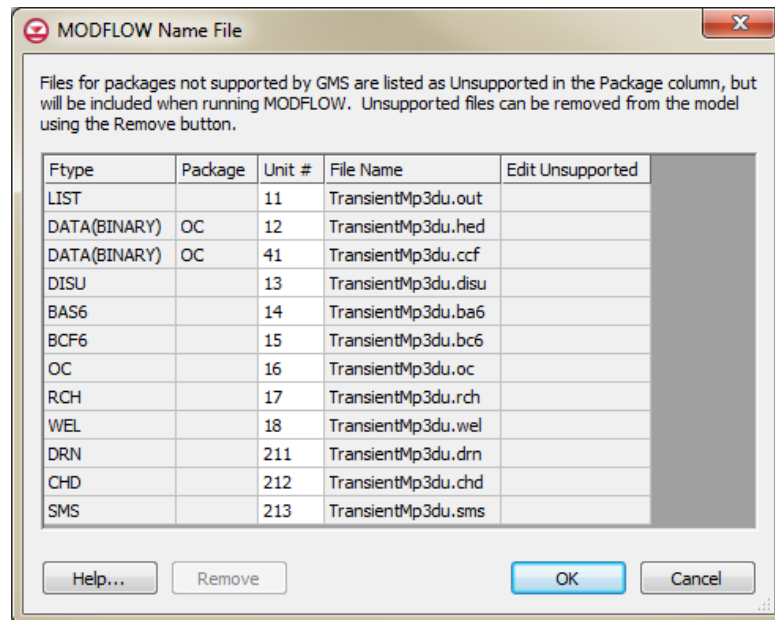

Figure 7 MODFLOW Name File dialog.
2. Scroll down so that unit numbers greater than “199” are visible (Figure 7).